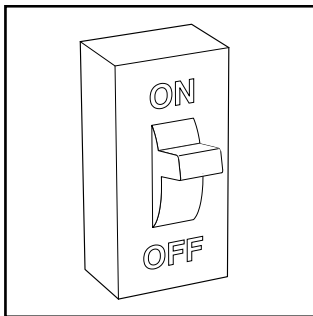

Fig. 11 - Turn On Electrical Supply
8. Turn on electrical supply to furnace (See Fig. 11).